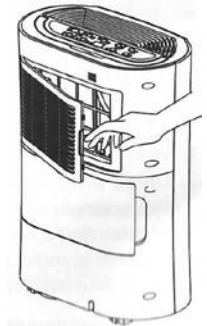

Fig. 7
3. Remove the inlet grille (6) and the carbon filter cartridge (13) (Fig. 7). Dust the grille (6) with a soft brush, wash it in water with a detergent and then rinse and dry. The grille must be completely clean. In the case of persistent grime, repeat the cleaning process. Dust the cartridge with a soft brush but do not wash it. Replace the filters after cleaning. Filters should be cleaned once every 2-3 weeks. If mechanical damage is found, replace the filters.